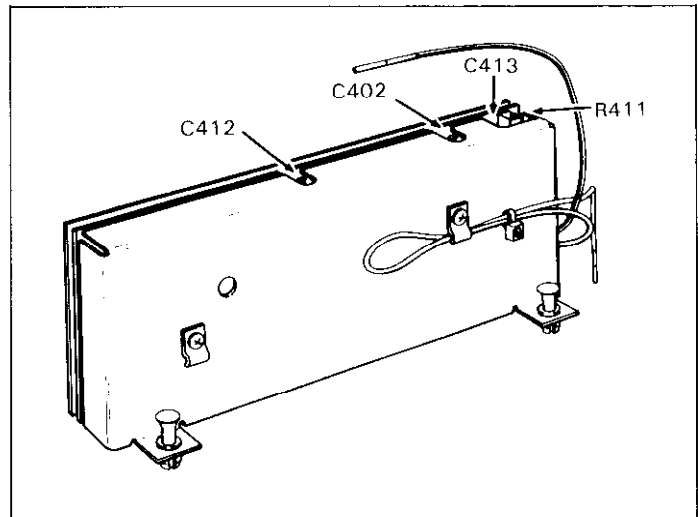

Figure 6-7. TRMS AC Volts Calibration Adjustments
- D. After allowing sufficient time for the measurement to settle, use an insulated alignment tool to adjust C413 (see Figure 6-7) for a display reading of 100.000V ±250 counts.